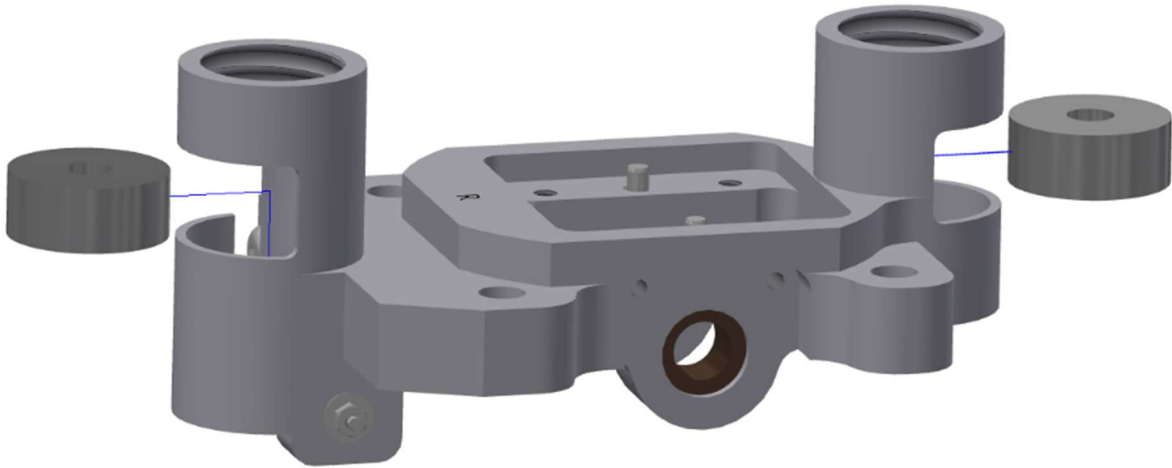

Figure 4-40. Insert skull spring load cells (SA572-S112) into neck mounting plate (474-2302-A)
- 4.3.10 Install the 0.850 diameter Skull Spring Load Cells (SA572-S112) into the Head/Neck Mounting Platform (474-2302-A) at the base of the front and rear spring towers (Figure 4-40).